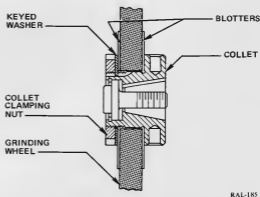

Figure M12
2. **Inspect Mounting Parts for Flatness** – Check collet clamping nut, keyed washer, spacers, and wheel bearing surface of the collet (Figure M12) for flatness. Coat bearing surfaces of spacers, keyed washer, and collet nut with red lead or prussian blue. Rub bearing surfaces on a surface plate to determine the location of any high spots. High spots should be evenly distributed over the surface being checked. Nicks or burrs should be carefully removed so as not to remove metal below the original machined surface. Spacers and washers should also be checked on a surface plate with a dial indicator, to be certain that both sides are parallel. Coat the wheel bearing area of the collet with a thin film of red lead or prussian blue. Use a flat, precision ground ring with a 1/4" hole to check flatness of the bearing surface. Wheel bearing area must be flat and free of nicks and burrs.